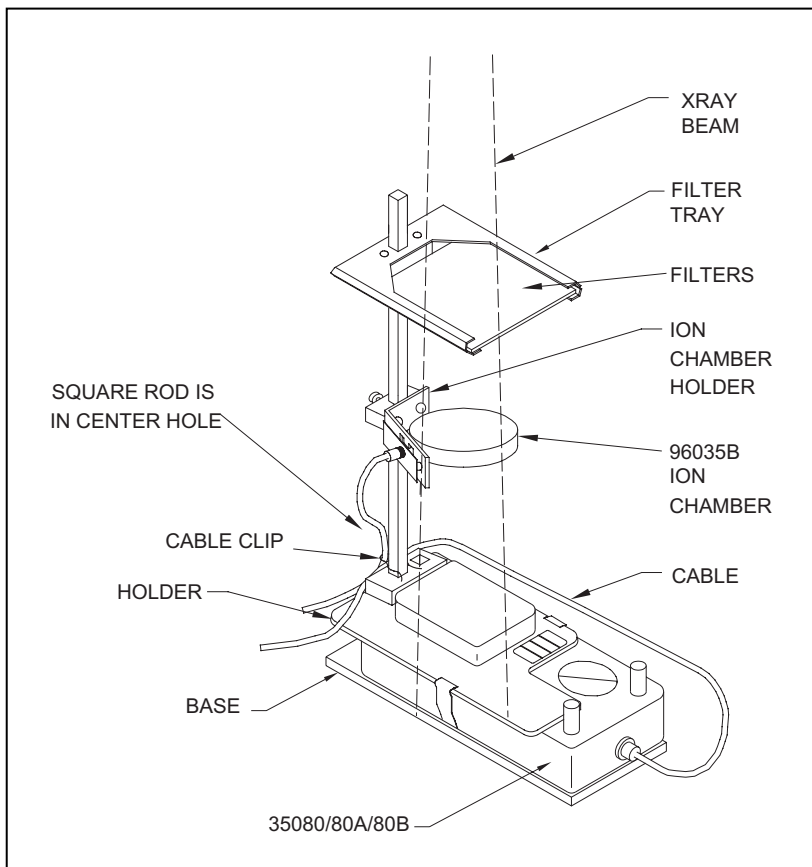

Figure 2-4. Over-Table HVL Setup
For over-table tubes, follow the assembly steps below and refer to Figure 2-4.
4. If not already in place, position the kVp divider on the test stand baseplate with filter pack facing upward. Make sure the square rod is placed in the center hole on the holder as shown in Figure 2.4. The kVp divider's rubber feet must be inserted fully into the half circle cutouts in the baseplate for proper alignment.
3. If not already in place, position the kVp divider on the test stand baseplate with filter pack facing upward. Make sure the square rod is placed in the center hole on the holder as shown in Figure 2.4. The kVp divider's rubber feet must be inserted fully into the half circle cutouts in the baseplate for proper alignment.